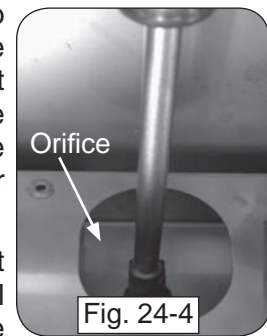

Fig. 24-4
3. Use a $\frac{3}{8}$ " hex nut driver to remove the exposed orifice (Fig. 24-4) and replace it with the correct orifice for the new gas. (See Table 1 at the beginning of this document for orifice sizes.)